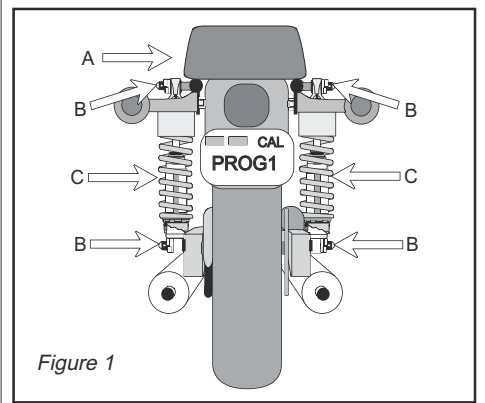

Figure 1
- Install one 12 series shock (without springs) and check clearance (#A in Fig. 1). Raise wheel into fender well until shock bottoms. There should be a minimum of 1" of clearance between the tire and fender.
- Now check clearances (B & C) in figure 1.
5. On GL1100 install one 10mm sleeve into lower left shock eye.(Fig. 1)